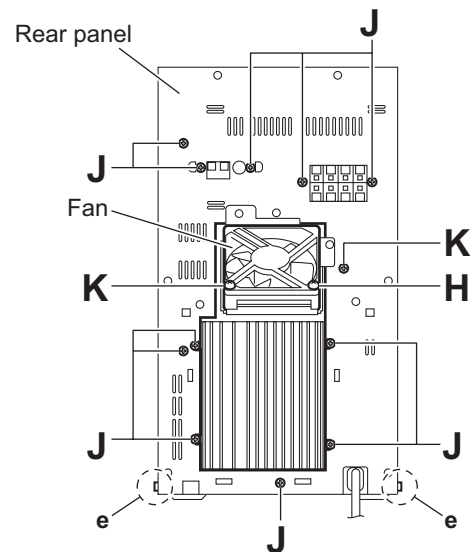

Fig.12
- (4) Remove the screw **H** and eleven screws **J** attaching the rear panel. (See Fig.12.)
- (5) From the both sides of the main body, release the joints **e** attaching the rear panel to the chassis base and remove the rear panel with the fan. (See Fig.12.)
- (3) Remove the two screws **K** attaching the fan. (See Fig.12.)
- (4) Take out the fan from the main body.